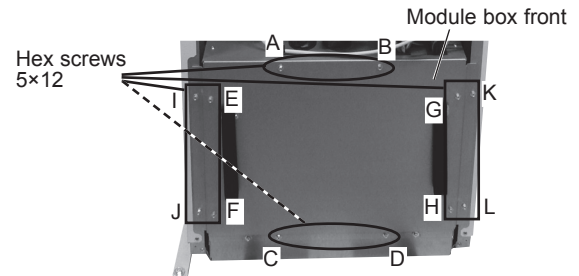

Figure 13-1
- (4) Disconnect the relay connector of brine pump.
- (5) Remove the rubber mount, band C and band H. (Figure 13-1)
- (6) Remove the flexible pipe (brine in) from the brine pump (the fastener and the O-ring on the flexible pipe side). (Figure 13-1)